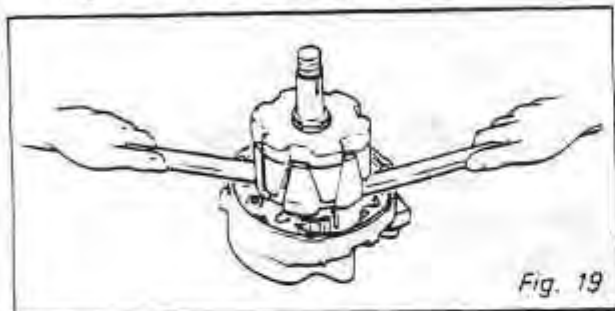

Fig. 19
1. Remove the voltage regulator (1).
2. Remove the diode carrier (5).
3. Mark the relative positions of the slip ring end bracket (6), laminations of stator (7) and drive end bracket (8).
4. Place an old fan belt around the pulley (9) and clamp the belt in vice jaws with the pulley as close to the vice as possible. The friction and self wrapping action of the belt will provide adequate reaction to loosening the pulley nut (10).
5. Remove the assembly from the vice, remove the nut, spring washer (11), spacer (12) and pulley (9).
6. Remove the spacer, washer, fan (13), washer, key (14) and spacer.
7. Remove the nuts, washers and through bolts (15).
8. Separate the drive end bracket (8) from the stator (7), slip ring end bracket (6) and rotor assembly (16). Withdraw the stator (7) from the slip ring end bracket (6).
9. With suitable levers remove rotor (16) from slip ring end bracket (6). *Fig. 19*
9. With suitable levers remove rotor (16) from slip ring end bracket (6). *Fig 19.*
10. Remove the three bolts (19) and washers securing the bearing retainer to the drive end bracket (8) and press out the bearing (20).